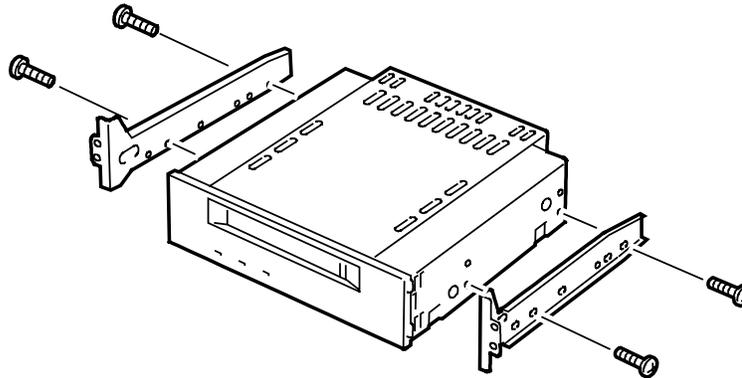

Figure 4-40. Attaching the Rails
5. Attach the rails to the 5.25-inch device by using the four screws. See Figure 4-40.